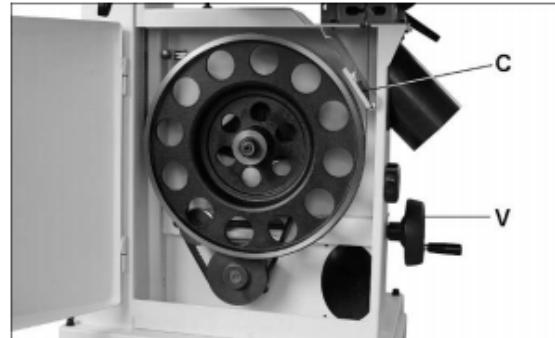

Figure 7-4
6. Remove dust block (C, Figure 7-4).